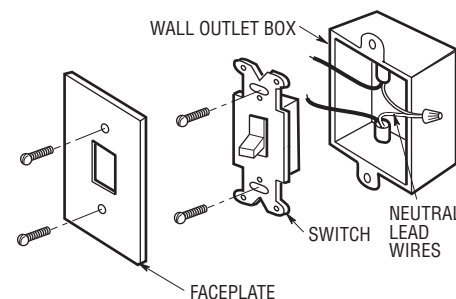

Figure 1
4. Disconnect the electrical wires from the existing wall switch (Figure 1).